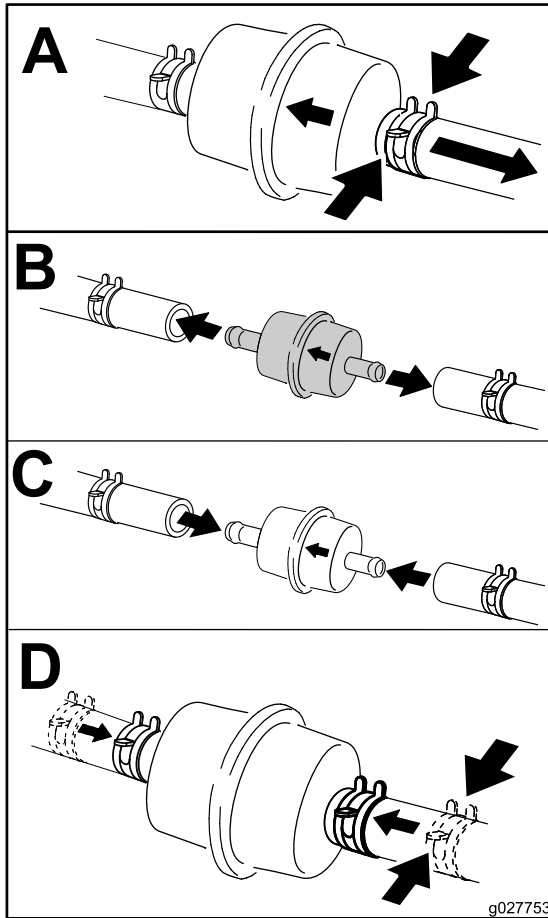

Figure 44
3. Replace the fuel filter as shown in Figure 44.